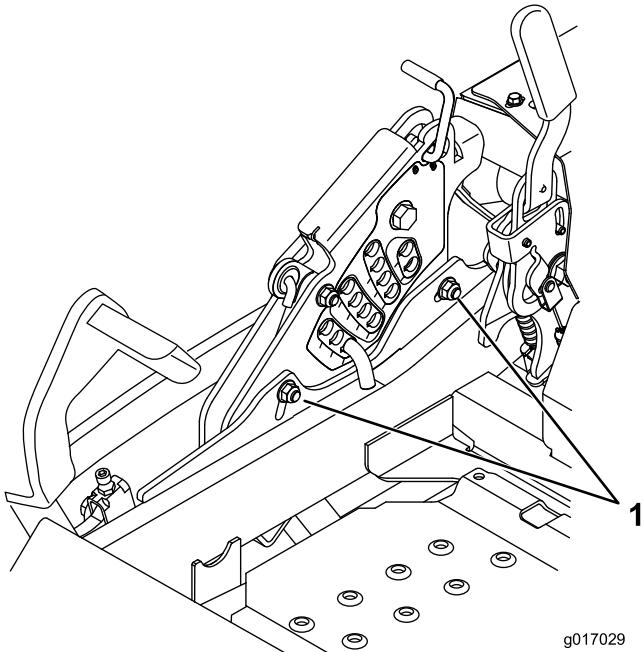

Figure 88
- 12. To adjust the single point system, loosen the two bolts at the bottom of the height of cut plate. Refer to Figure 88.
14. Tighten the two bolts at the bottom of the height of cut plate (Figure 88). Torque to 27-33 ft-lb (37-45 N-m).